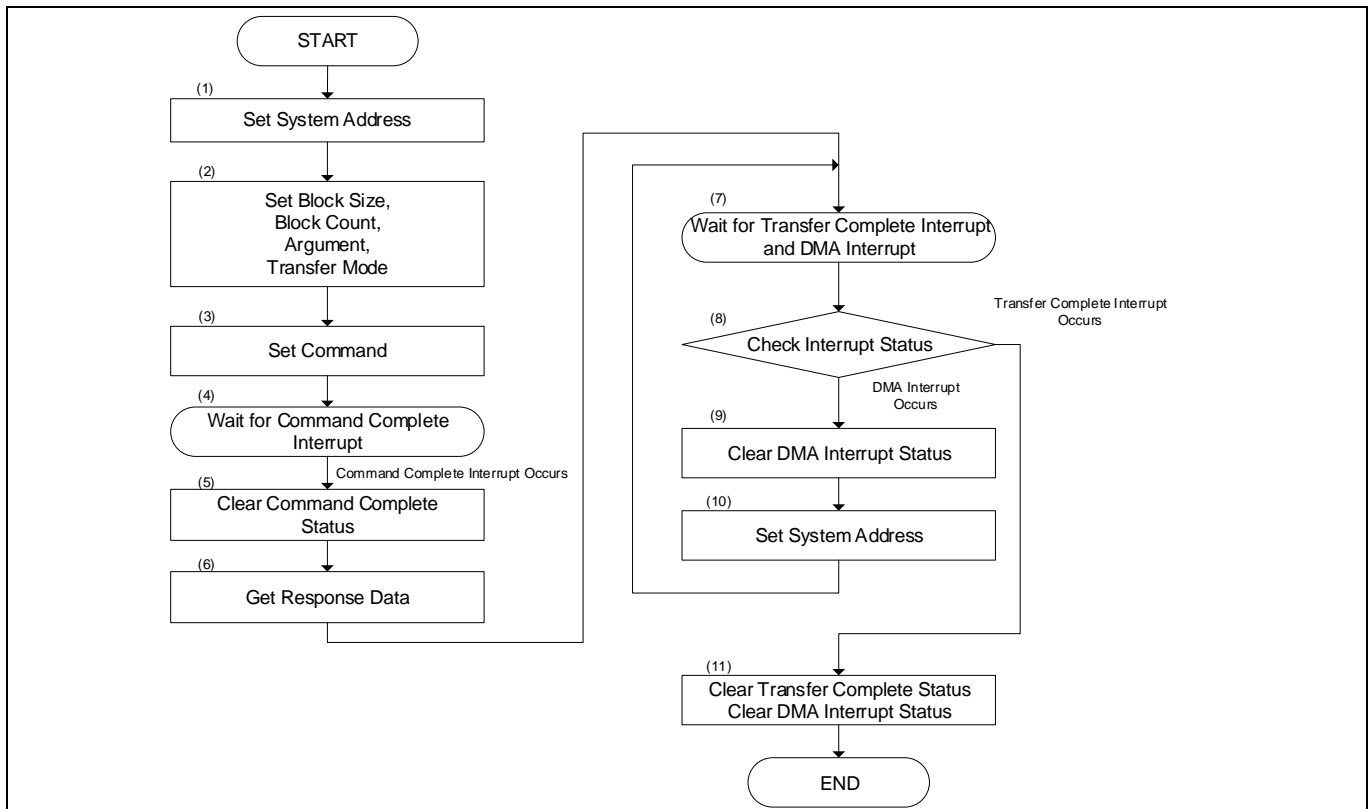
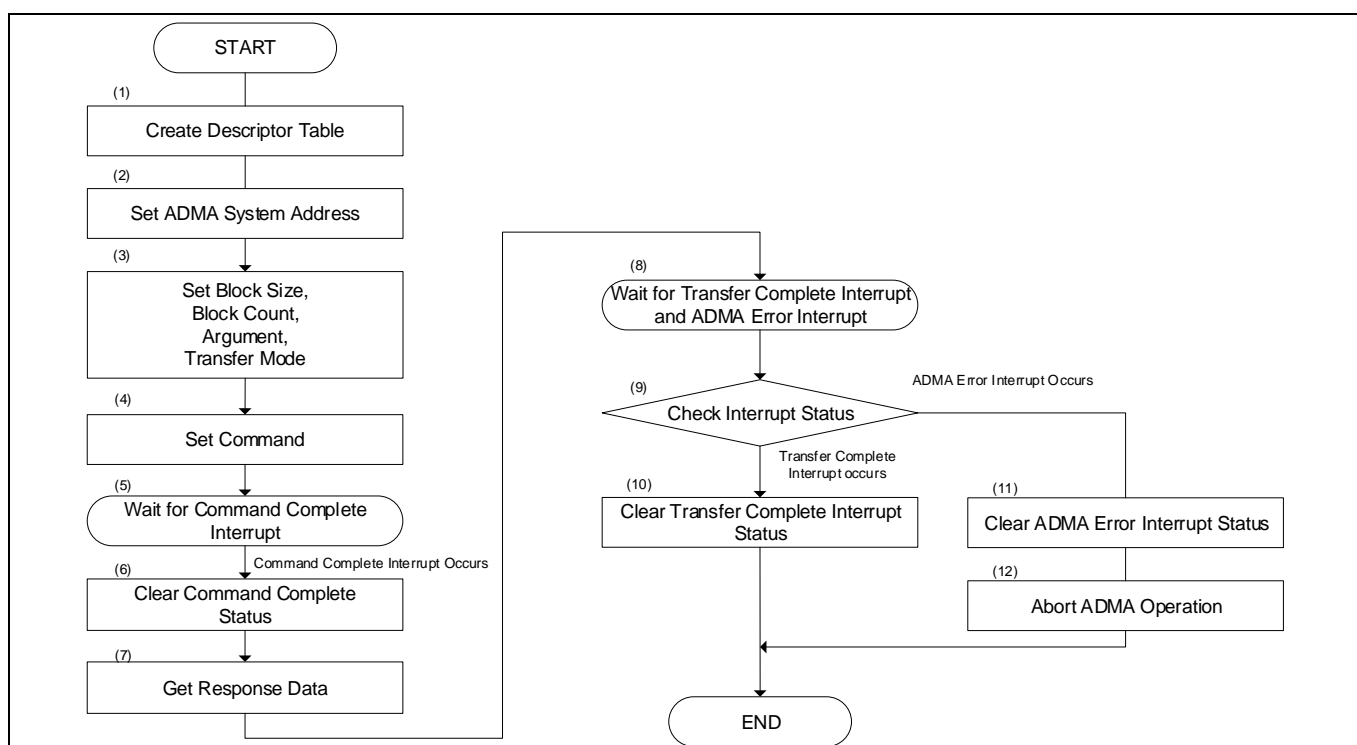

Figure 2 Data transaction sequence with SDMA
Figure 3 Data transaction sequence with ADMA
- The sequence with the DMA is shown in Figure 2 and Figure 3
Figure 2 shows the data transaction sequence with SDMA.
Figure 3 shows the data transaction sequence with ADMA.